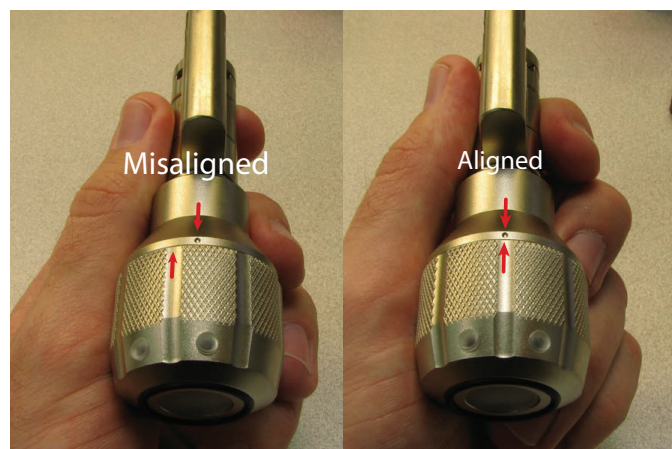

Figure 10: Aligning the Groove
9. With the cap fully set and looking at the top of the lock, the groove between the two LEDs must be aligned with the punch mark. Adjust as needed. See Figure 10.